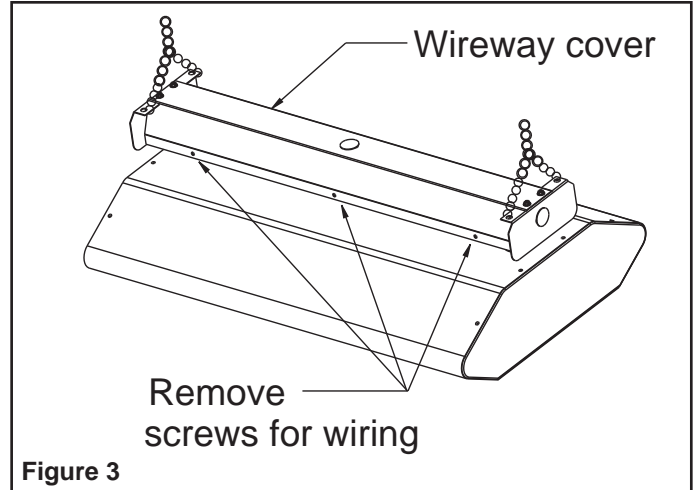

Figure 3
Refer to Figure 3 and proceed as follows. Conduit, connectors, chain loops and hooks are supplied by others in the following instructions.
2. Attach loop chains (not furnished) on each end of wire cover as shown in Figure 3.
4. Remove screws (see Figure 3) from front of wireway cover and allow heater to rotate down for wiring.